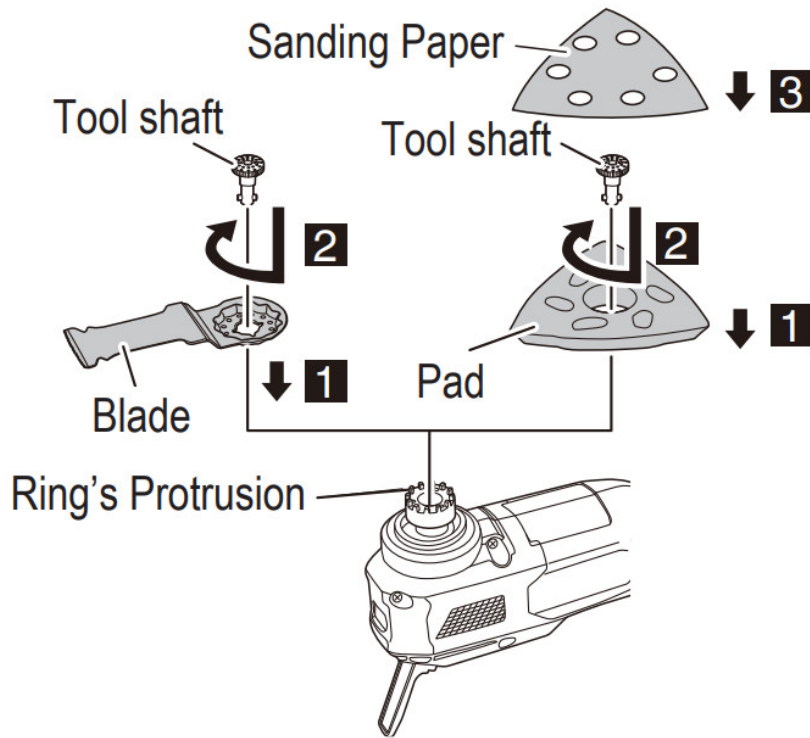

Fig. 10
(3) Attach the application tool to the attachment ring, making sure the tool's hole is fitted to the ring's protrusion. The angle of attachment for the application tool can be set in 30° increments. (Fig. 10)
(4) Firmly insert the tool shaft while rotating it clockwise. (Fig. 10)
(6) Align the holes when sticking the sanding paper to the sanding pad. (Fig. 10)